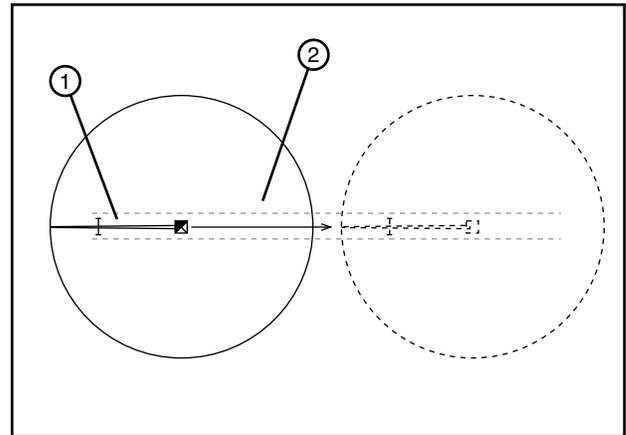

Figure 43-1 1. Machine
1. Position the machine in the tow lane. See figure 43-1.